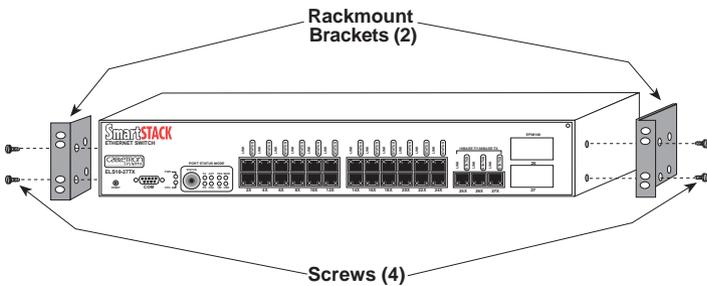

Figure 2-3. Attaching Rackmount Brackets
1. Attach the rackmount brackets to both sides of the SmartSTACK Ethernet ELS10-27 chassis, as shown in Figure 2-3.